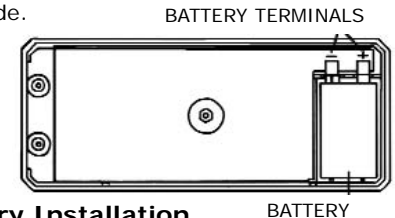

Figure 2. Battery Installation
4. Place the new battery in the battery compartment. Be sure to observe the proper polarity (refer to Figure 2).